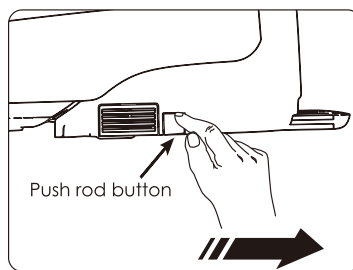

Fig.4
4). Install iBIDET on ceramic body: hold the left side of iBIDET with one hand, hold the right side of iBIDET with another hand and press the push rod button at the same time, place the iBIDET base along the fixing plate, push it forward until it is locked tightly (Fig.4).